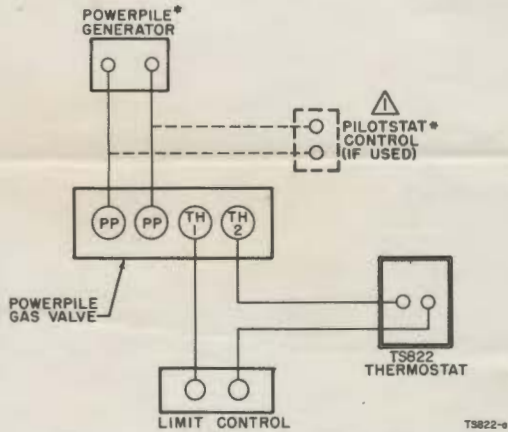

Fig. 1—Typical hookup for TS822 Thermostat.
6. Connect wires to backplate terminals (See Figs. 1 and 2).